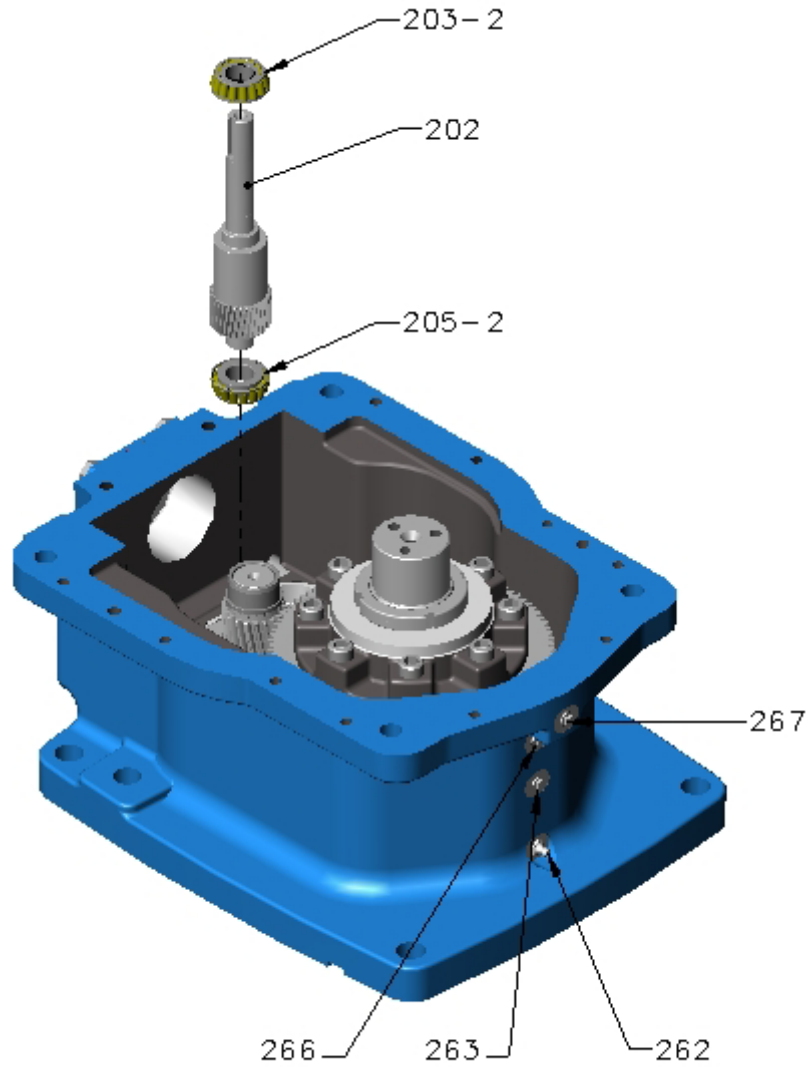

Figure 6 – Input Shaft
- G. Remove input shaft assembly (refer Figure 6).
- H. Input shaft disassembly (refer Figure 6):